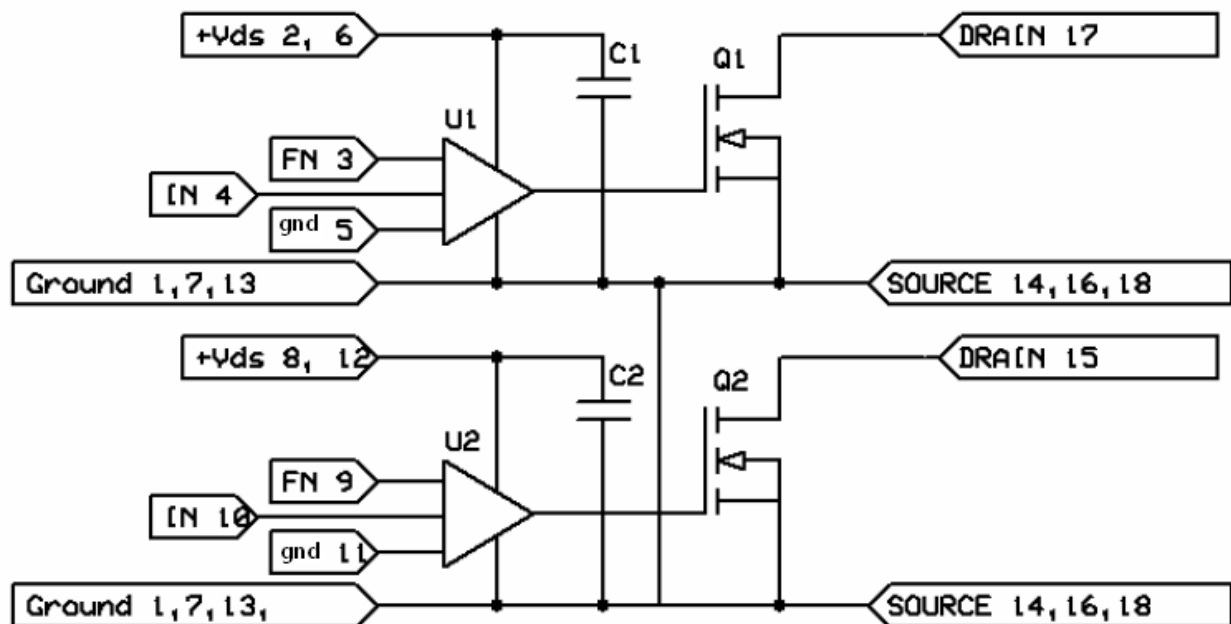

Figure 1. DRF13XX
Figure 1 shows a simplified circuit diagram for the DRF13XX series of devices. The Hybrid consists of two MOSFET Drivers and two Power MOSFETs in a Push-Pull configuration. For U1, the control signal is applied to internal driver through pin 4 (IN) and referenced to pin 5 (GND) a Ground return. The pin 3 (FN) allows the user to select either Inverting or Non-inverting mode. The output of the driver is internally applied to the gate of the Power MOSFET. U2 is controlled in the same method. For more information on the specific DRF13XX, refer to the device data sheet.